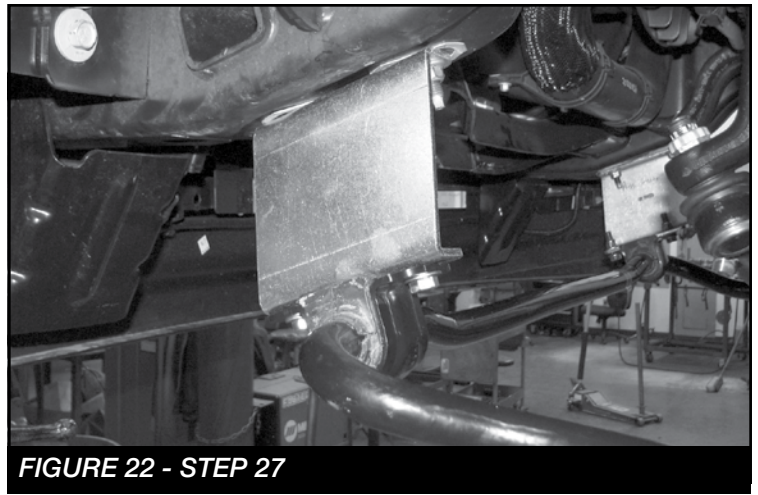

FIGURE 22 - STEP 27
27. Install FT30630 (Driver) & FT30629 (Passenger) Sway bar drop brackets using the factory hardware. Reinstall the front sway bar to the end links using the supplied 7/16" hardware torque all hardware to 83 ft-lbs. Reconnect the sway bar to the end links. Torque to 52 ft-lbs **SEE FIGURE 22**